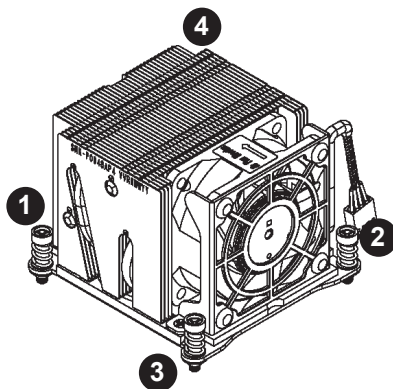

Figure 5-2. SNK-P0048AP4
4. Press the release tabs to the lock positions to secure the DIMM module into the slot. See Figure 5-2.